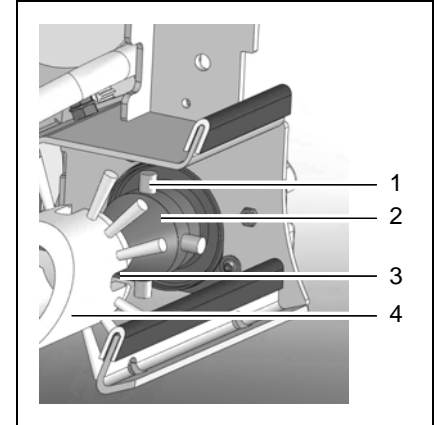

Fig. 8
7. To slide the rotary brush (Fig. 8/4) on the facing brush support (Fig. 8/2), raise the rotary brush (Fig. 8/4) a little and turn slightly, if necessary, until the catches (Fig. 8/3) perceptibly slide from the rotary brush (Fig. 8/4)
onto the pins (Fig. 8/1) of the brush support (Fig. 8/2).